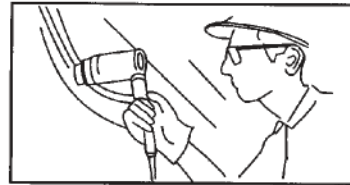

Figure 8
1. When the wheel is on the vehicle, use the bead breaker to break the back tire bead, following the same procedure used on the front tire bead. If the wheel is on the vehicle, you may need to use a smaller ram, such as an ESCO ESC-30 (10306), between the frame of the vehicle and the back flange (See Figure 8). Repeat the steps in “**USING THE OTR-1825D OR OTR-1600 BEAD BREAKERS**” on pages 2 and 3.